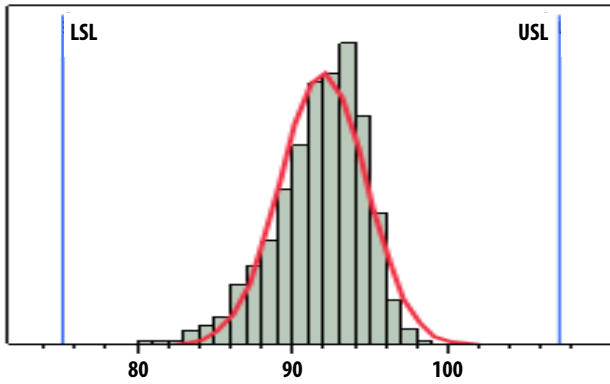

Figure 1. Idd, LSL = 75 mA, nominal = 92 mA, USL = 107 mA
RF performance at TA = 25° C, Vdd = 5 V, 915 MHz, measured on demo board in Figure 1 with component listed in Table 1 for DC bypass.
1. Measurements at 915 MHz obtained using demo board described in Figure 1.